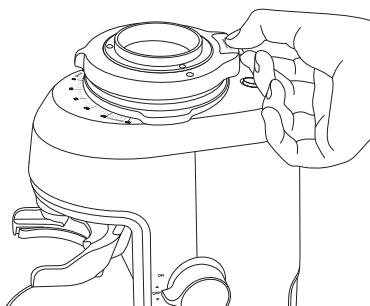

Figure 13
8. Lift the recalibration release lever and remove grind adjustment collar, see figure 13 and 14.
7. Lift the recalibration release lever and remove grind adjustment collar, see figure 13 and 14